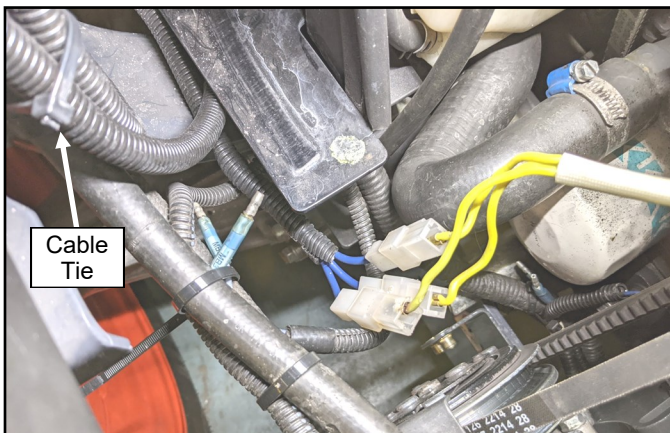

Fig. 7.3 (Connect Dynamo Wiring Harness)
- 7.3 See fig. 7.3. Connect the dynamo wiring harness to the dynamo. Using one cable tie, secure the wire harness to the compressor lines where compressor lines bend to go to the compressor. Ensure that the wire harness will not contact any sharp edges. Make sure hood closes without hitting the wire harness.